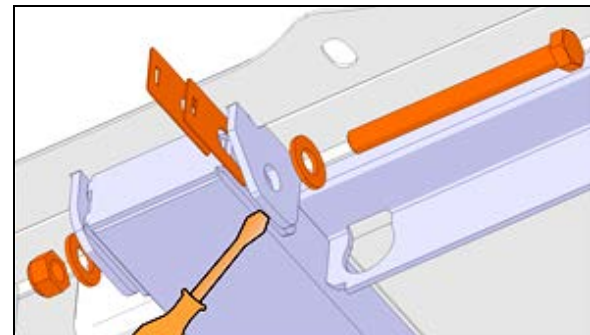

FIGURE 19: SHIM INSTALLATION, TRANSVERSE SCREW. ARRANGEMENT MAY VARY
7. Shim arrangement may vary and may be stacked on both sides (Figure 19).